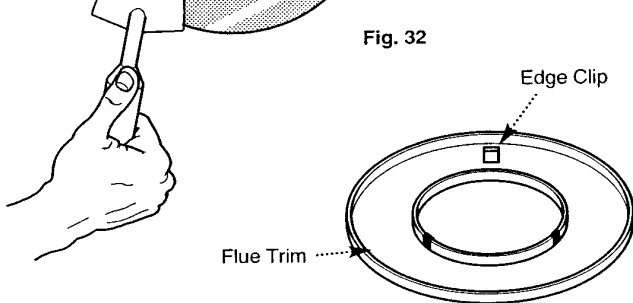

Fig. 32a
- b) Take the three edge clips from the kit and fit them equi-spaced onto the inner flange of the trim (Fig. 32a).